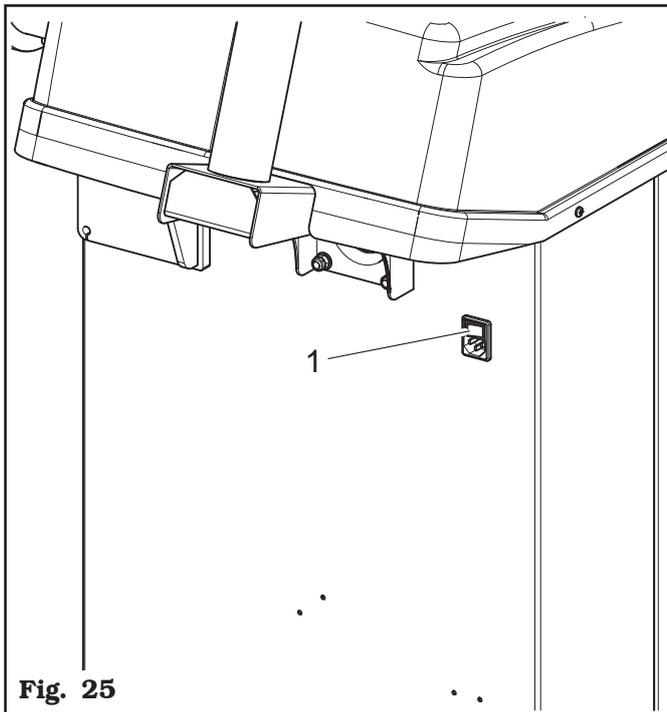

Fig. 25
Once the plug/socket connection has been made, turn on the machine using the master switch (**Fig. 25 ref. 1**).
Press the "ON" switch (Fig. 25 ref. 1), located in the rear part of the equipment.
In order to turn off the machine, simply press the "OFF" main switch (**Fig. 25 ref. 1**).